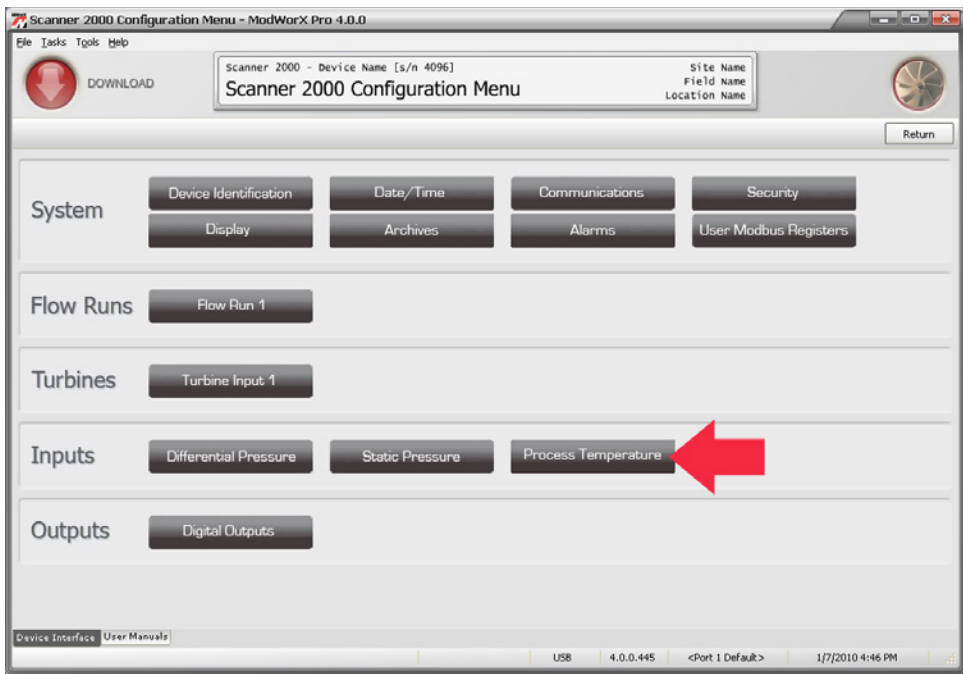

Figure 6.2
2. Then, click the appropriate input in the Inputs section of the Configuration Menu screen (Figure 6.2, page 76).